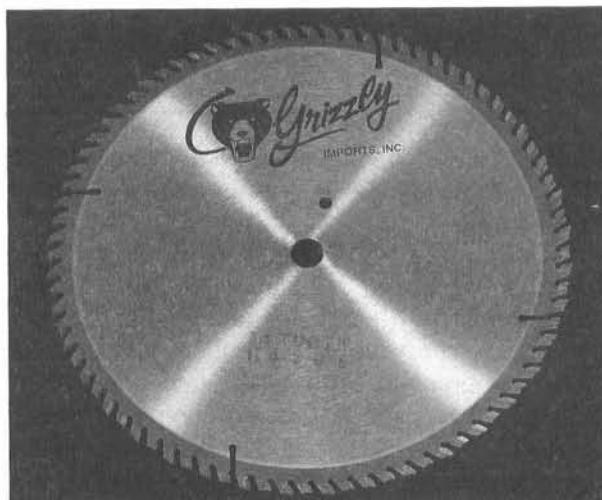

Figure 46.
4. **Plywood Blade:** Used for cutting plywood or veneers. A Plywood blade will have 80+ teeth, a steep alternate top bevel tooth profile and very shallow gullet. **Figure 46.**